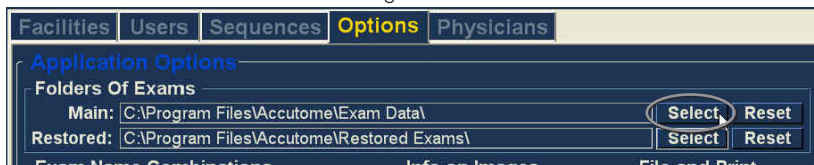

Figure 4.30 - Selecting Main Exam Folder
1. Click on "Select" as shown in Figure 4.30 below.